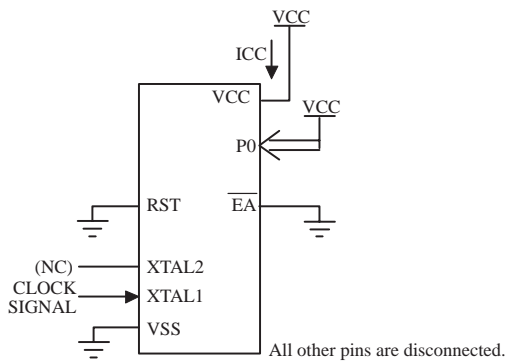

Figure 11 ICC Test Condition, Idle Mode
- Idle ICC is measured with all output pins disconnected; XTAL1 driven with TCLCH, TCHCL = 5ns, VIL = VSS + 0.5V, VIH = VCC - 0.5V; XTAL2 N.C.; Port 0 = VCC; $\overline{\text{EA}}$ = RST = VSS (see Figure 11).